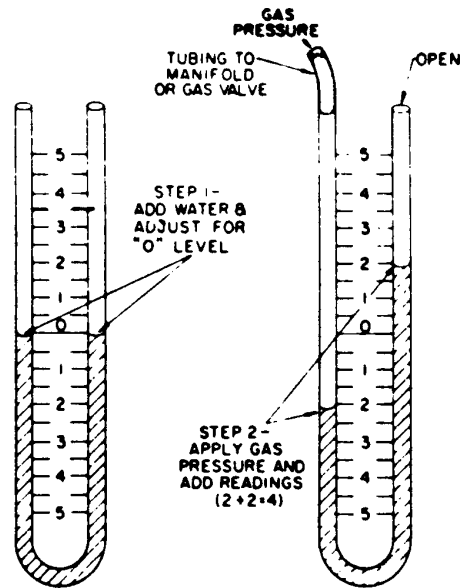

Figure 33 - The Manometer
The usual procedure for taking the pressure reading is to connect the tubing to one of the gas valve orifice hoods and turn on the valve. A full load reading should be taken by turning on all of the top burners and the oven burner to assure that the pressure under a full load is adequate. Figure 33 shows four (4) inches water column pressure (WCP), two (2) inches above and two (2) inches below the